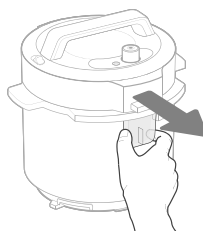

Figure 10.5
1. Remove the condensation collector by gripping each side with your thumb and pointer finger and pulling away from the pressure cooker. **[Figure 10.5]**